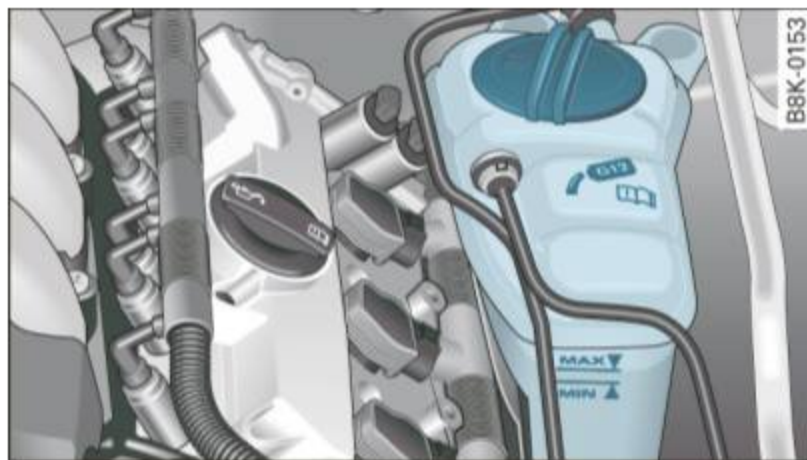

Fig. 208 Engine compartment: Coolant expansion tank
- Read the engine coolant level from the coolant expansion tank ⇒ fig. 208. With a cold engine, the coolant level should be between the “MIN” and “MAX” markings. When the engine is warm, the level may be slightly above the “MAX” marking.
- Place a thick rag over the coolant expansion tank ⇒ *page 282*, fig. 208 and **carefully** turn the cap counter-clockwise ⇒ .